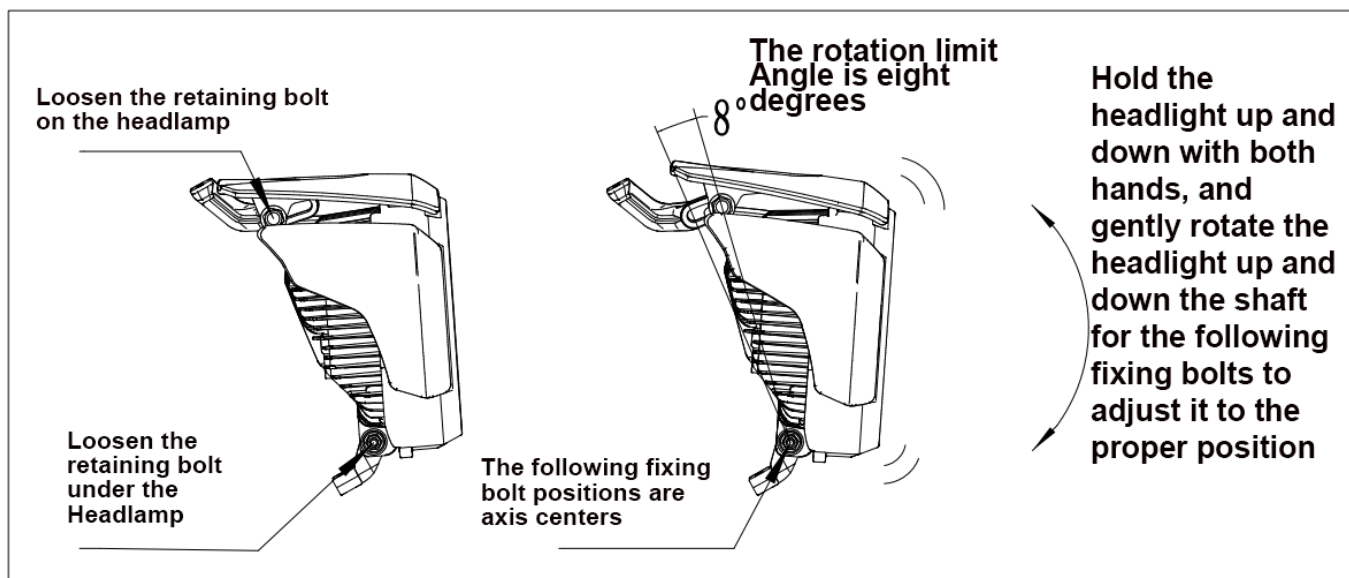

Figure 11
4.7. Headlamp pitch angle adjustment (Figure 11)